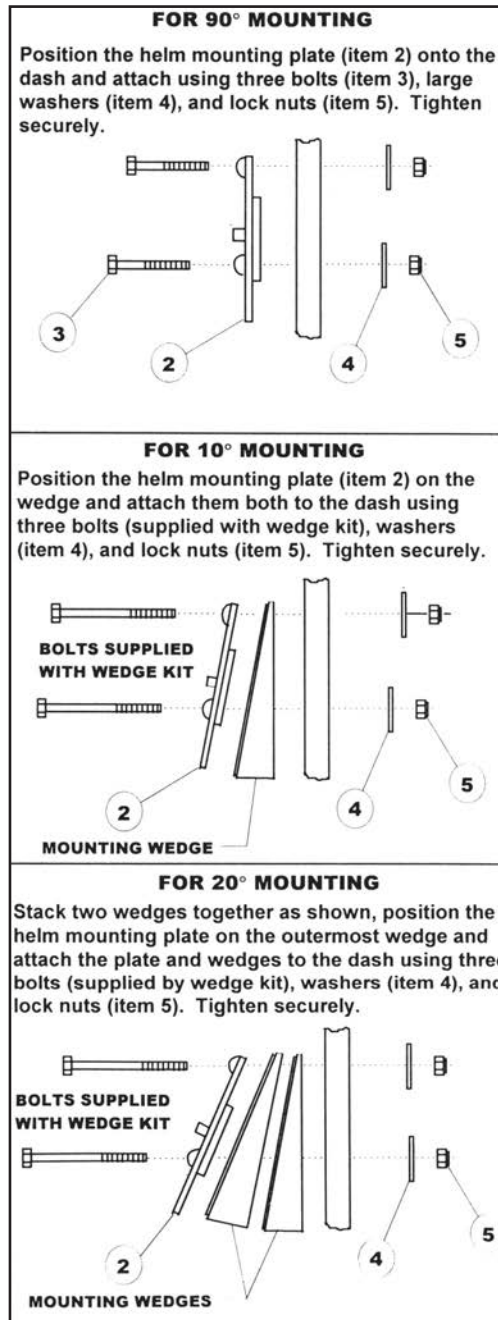

Figure 3.
**STEP 1.** Attach the helm mounting plate (supplied with the SB39526 Bezel Kit along with mounting hardware) to the dash as described in Figure 3.